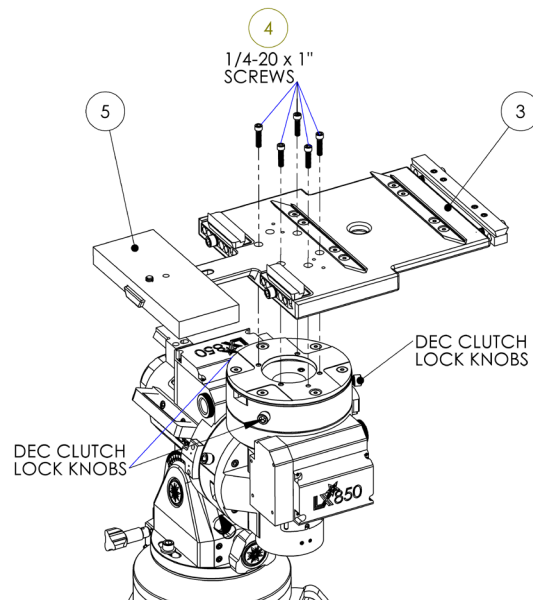

Fig 17: Attach the Saddle Plate
6. Using the 5/16” hex wrench tighten the three DEC clutch locking screws shown in Fig 17 to prevent the DEC assembly (Fig 12, #2) from rotating.
side of the mount as shown in the Figure 17.
(See the section "BALANCING THE TELESCOPE" BEFORE performing this step), Unlock the RA and DEC clutches (pg 15, Fig. 13 & pg 16, Fig 17) so that the telescope moves freely on both axes.